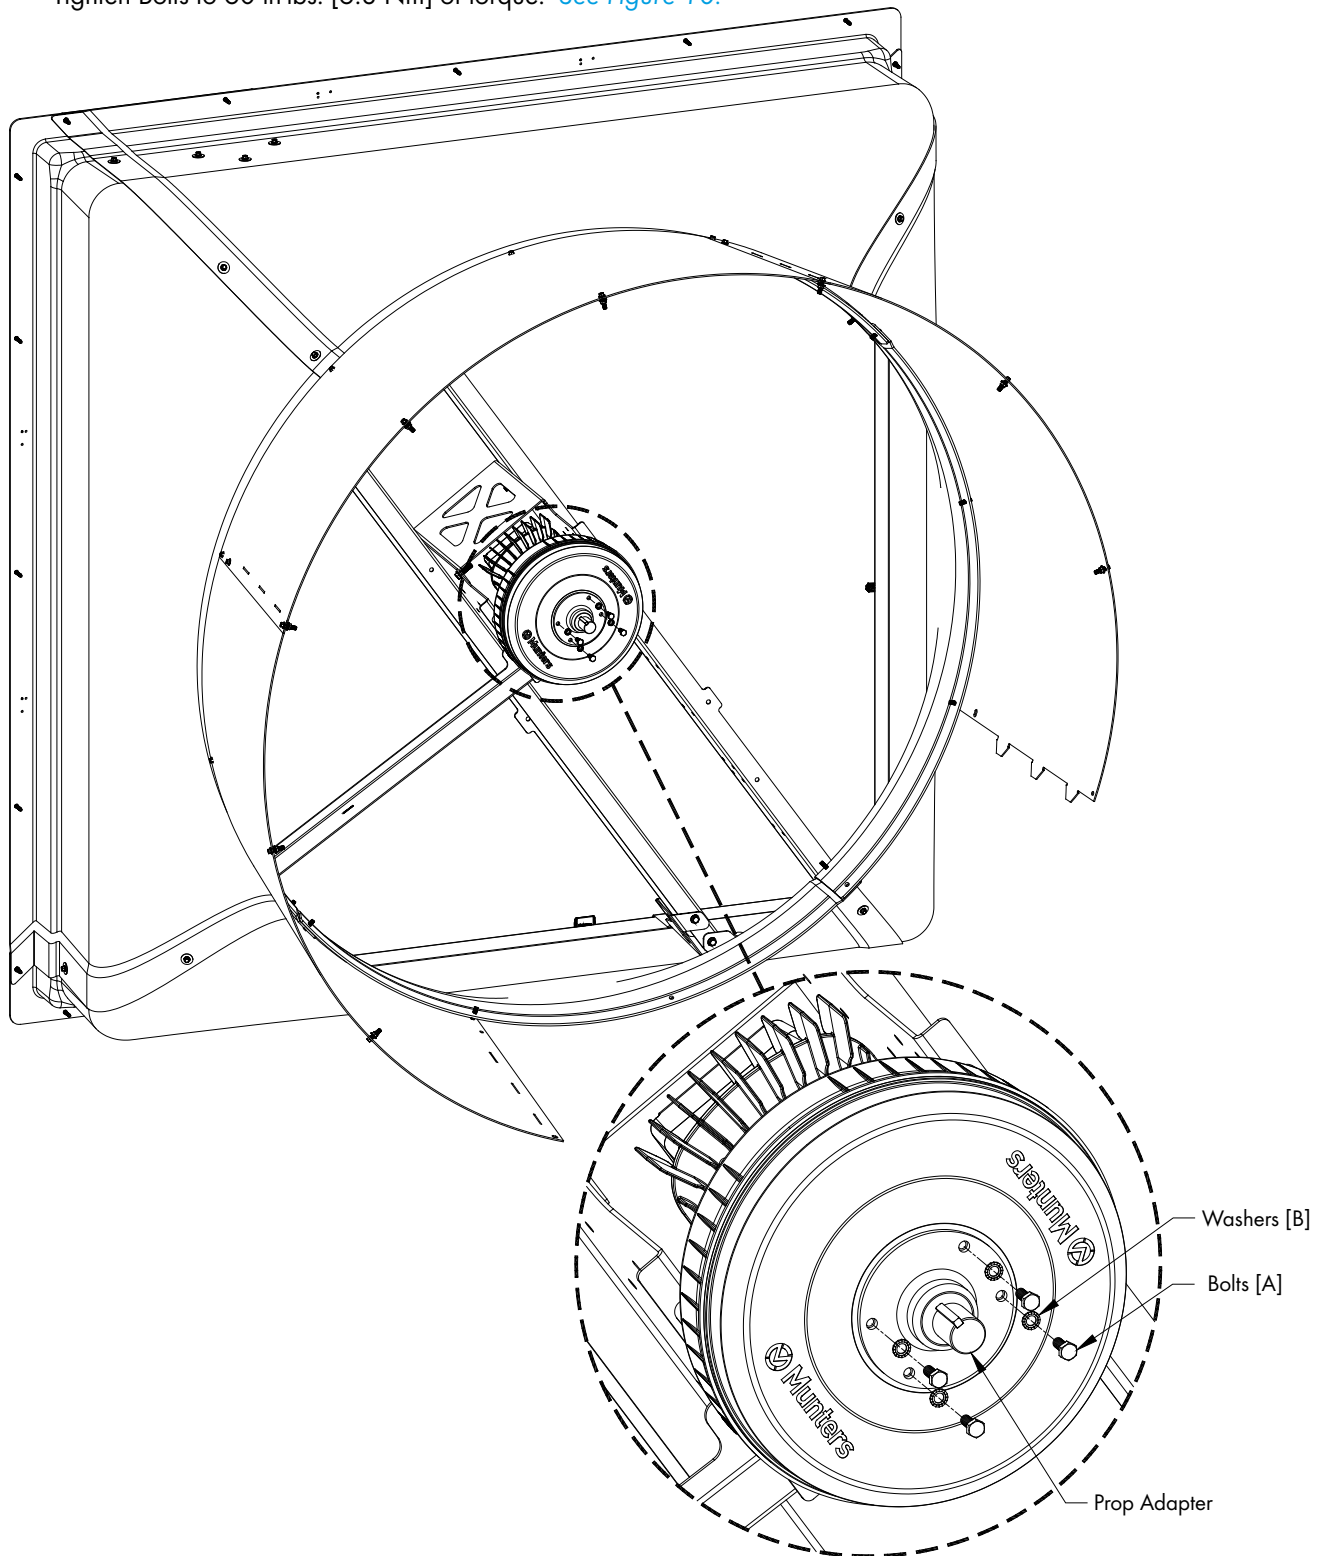

Figure 10
Attach the Prop Adapter removed in Step 5 to new Motor/Drive using (4) new Bolts [A] and Star Washers [B]. Tighten Bolts to 60 in-lbs. [6.8 Nm] of torque. See Figure 10.